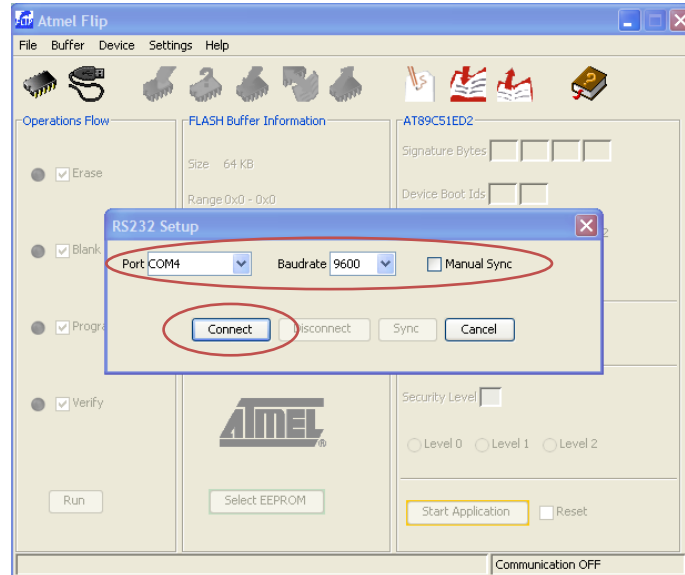

Figure 18 – RS232 Setup
- 3) See step 3 of flashing SCV PCB on page 4, when selecting the com port, select com 4 instead of com 1, as seen in figure 18 below.